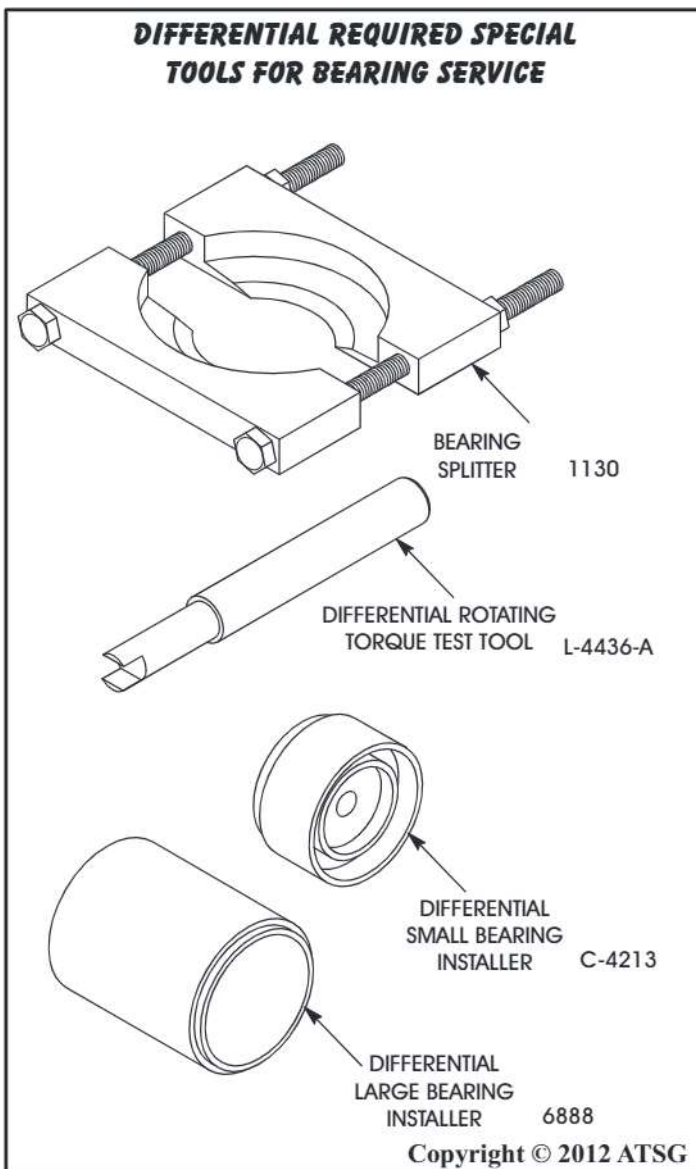

Figure 95
14. If bearing service is required, the tools shown in Figure 95, or their equivalent, and suitable hydraulic shop press will be necessary.